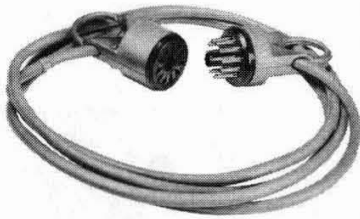

Fig. 3—P11C Test Cord
2.01 A P11C test cord (Fig. 3) is used to connect plug (P1) to jack (J1) which allows the set to be operative while door and liner assembly is opened.